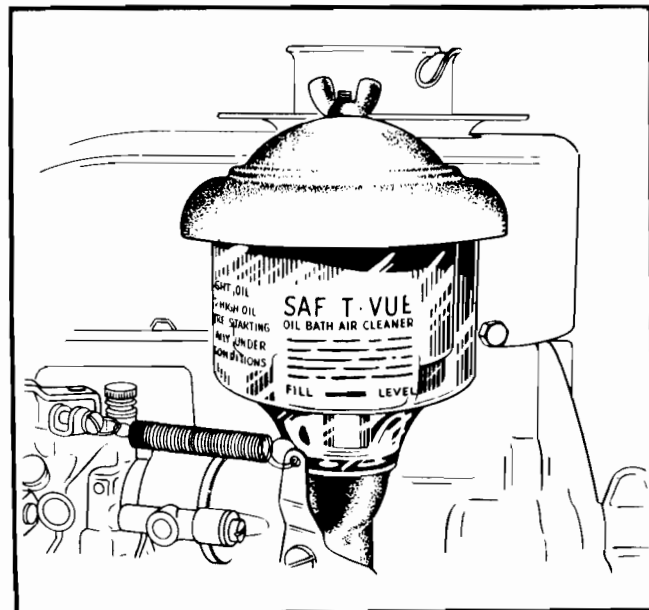

Figure No. 6—Air Cleaner Oil Levels
6. Fill the visible oil bath filter with SAE No. 50 up to the level mark on bowl. (See Figure No. 6.) Some oil is drawn into the filter element of the air cleaner, and will drain back into the filter cup after the engine is allowed to stand. Do not overfill the filter cup with oil, or the excess will be drawn into the engine and may carry dirt with it.